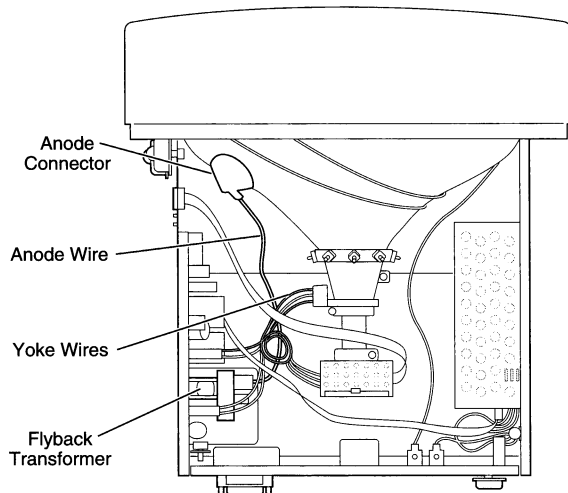

Figure 3 High-Voltage Areas
- ▲ **Warning** Serious injury could result if, with the power on, you touch any of the high-voltage areas shown in Figure 3.